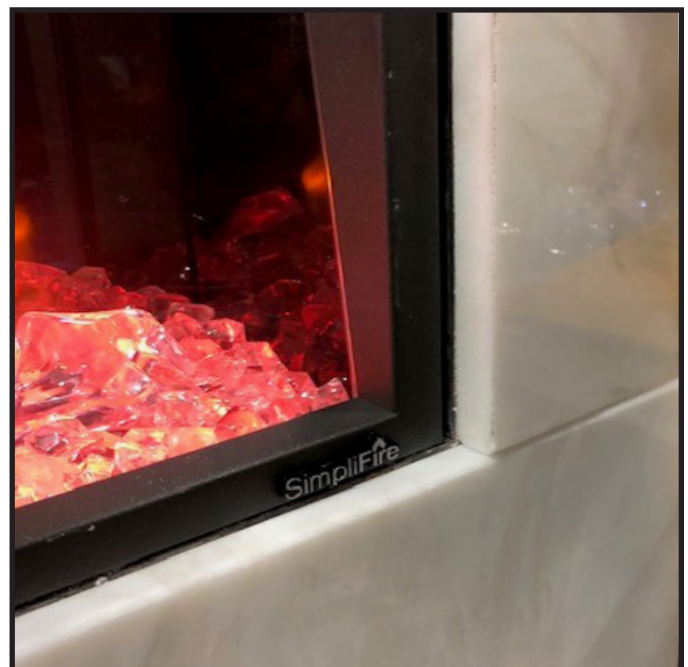

Figure 4.8 Front (without Trim Ring) Finished Inside Fit
- Inside fit with Front and without Trim Ring. See Figure 4.8.
6. The Front should fit inside the finished perimeter of the recessed opening and securely latch to the appliance. There should be approximately 1/16 in. clearance between the edge of the Front and the outer glass panel. See Figure 4.8.